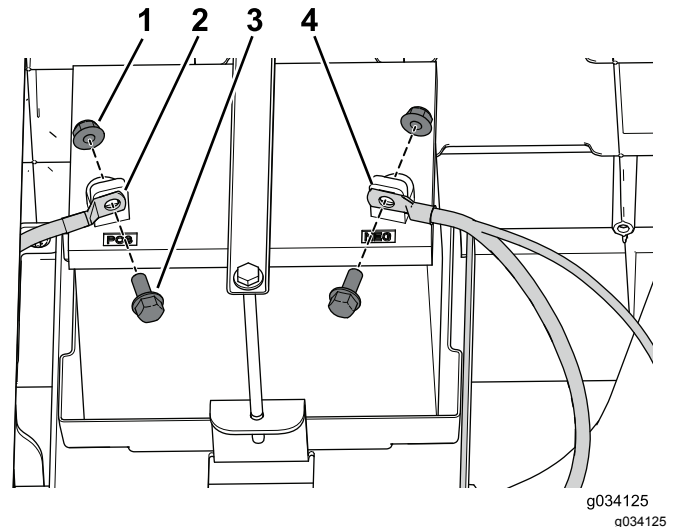

Figure 7
7. Remove the negative (–) cable from the battery and then the positive (+) cable (Figure 7).
3. Secure the battery cables using the previously removed 2 bolts and 2 nuts and connect the battery terminals (Figure 7).